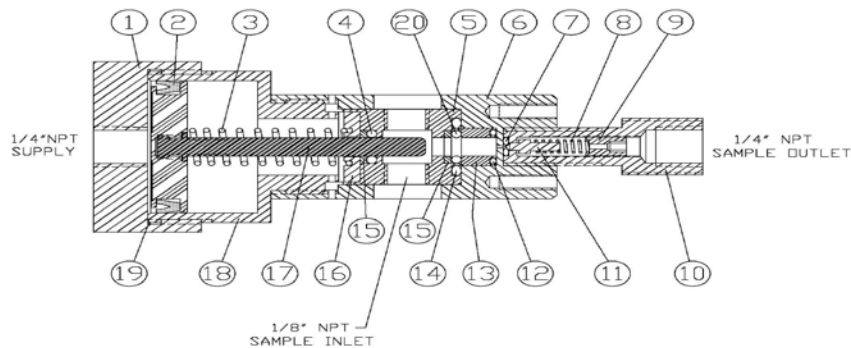

Figure 3.1
- 3.2.4 Remove sampler from probe (see Figure 3.1).